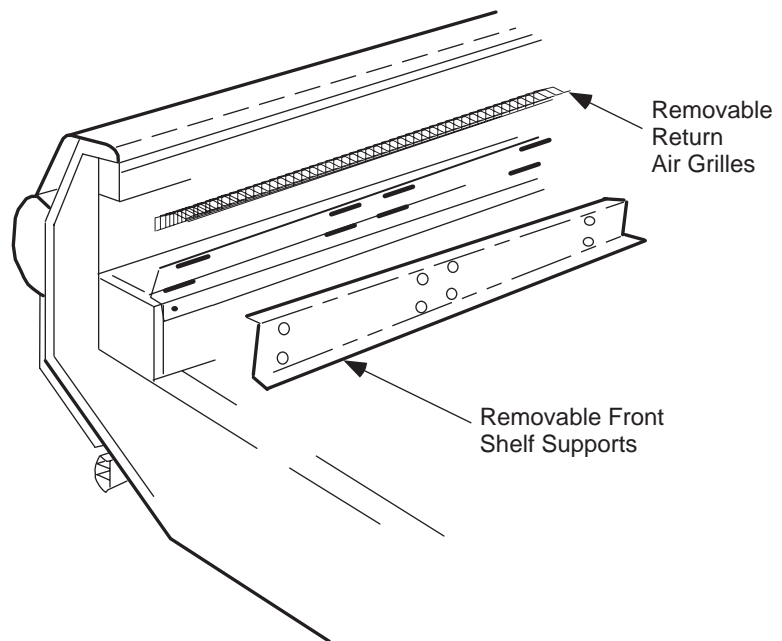

Figure 1. Removing Shelf Supports and Return Air Grilles
- 1 Remove shelves (if installed), display racks, pans, front shelf supports and front air grilles from the right end as shown in Figure 1.